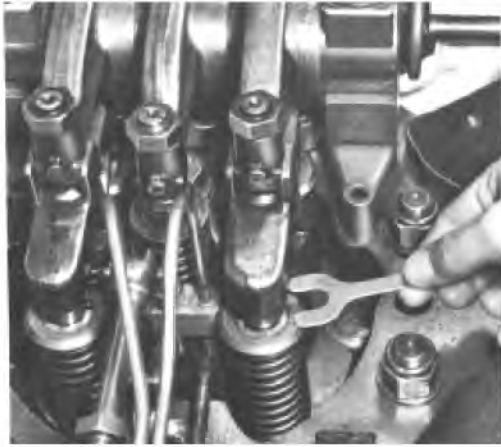

Fig. 5-37 - Checking Lash Adjuster To Valve Clearance
6. After running the engine until lube oil reaches operating temperature, check the clearance between lash adjuster bodies and the end of the valve stems with the piston near top center. If the clearance is less than minimum, the cylinder head should be removed for reconditioning or rejection. Use minimum clearance gauge, Fig. 5-37, to gauge clearance between lash adjuster and exhaust valve. This gauge is 1/16" thick and should fit between lash adjuster body and valve stem top, to ensure the minimum clearance.